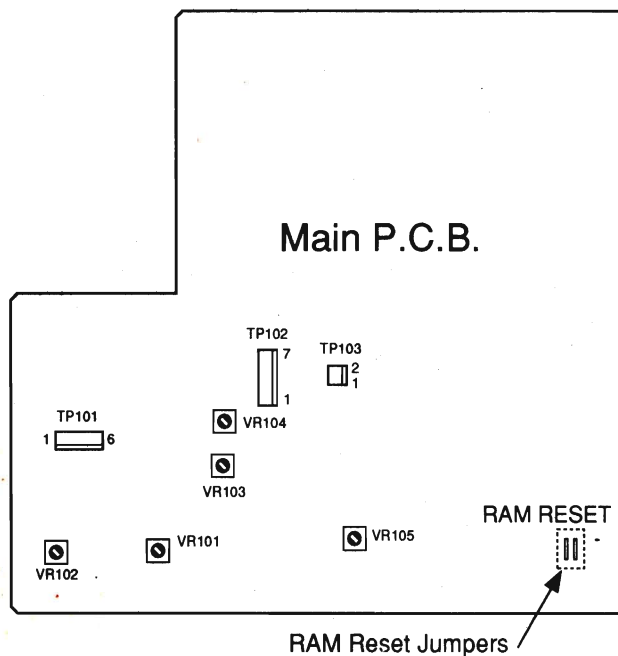

Fig. 1.2 Sticker Operation Check at Power ON
- (1) Turn OFF the power.
- (2) Remove the Top Cover Ass'y.
- (3) Short the RAM Reset jumper wires. See Fig. 1.2.
- (4) Turn ON the power and then remove shorting.
- (5) The sticker raises to the uppermost position, and then starts a series of CD unload operation as follows: